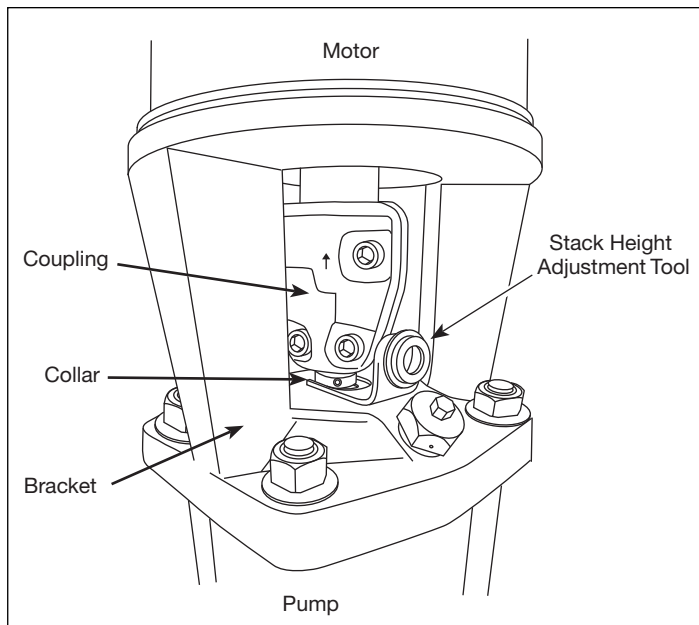

Figure 9B: Using the Stack Height Adjusting Tool
13. Raise the height of the pump shaft by inserting the stack height adjustment tool (see Figure 9B) below the collar.